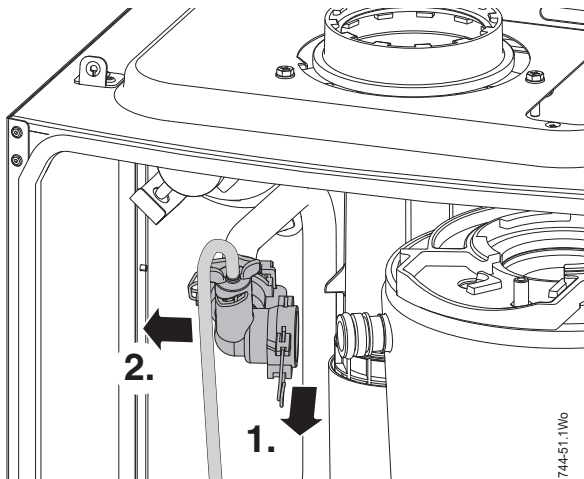

Fig. 84 Flow pipe removal
1. Refer to figure 84, remove the clip from the elbow on the flow pipe.